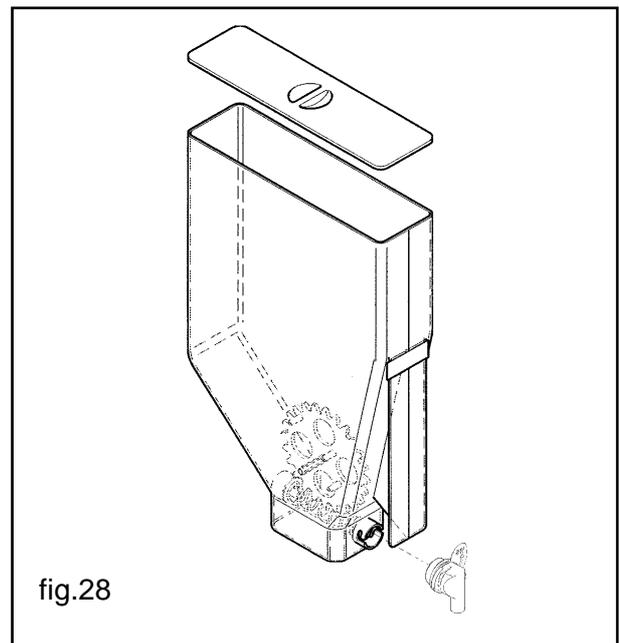

fig.28
- remove container lids and product channels (fig.28). Immerse all items into the previously prepared solution.